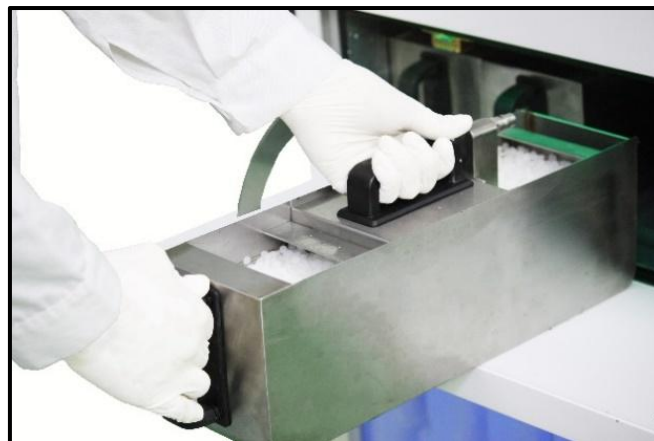

Figure 71
- Push the full paraffin cylinder back into the paraffin case. When inserting the paraffin cylinder, make sure that the paraffin cylinder (male) is aligned with the corresponding paraffin case joint (female). During insertion, a clicking sound indicates that you have correctly installed the paraffin cylinder in place (Figure 71). Close the paraffin case door afterwards.